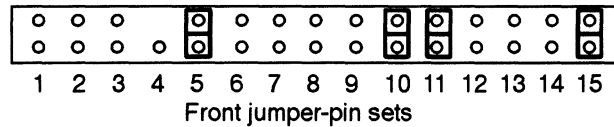

Figure 2 Required jumpers for Model 61005-S, 61006-S, or 61007-S drive (front jumper-pin sets)
3. Make sure jumpers are installed across front jumper-pin set 5, 10, 11, and 15, as shown in Figure 2.